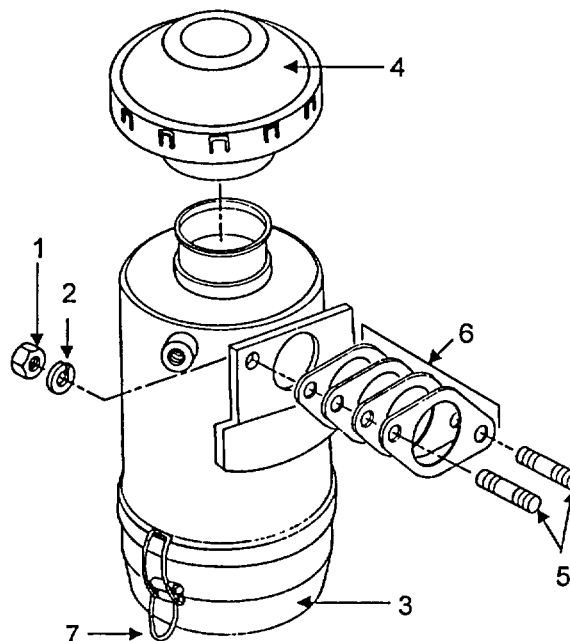

FIGURE 3-14. ENGINE OIL BATH AIR CLEANER FILTER
b Unlatch two spring clips (Figure 3-14, Item 7).
a Remove two 8 mm hex nuts (Figure 3-14, Item 1) and washers (2) from studs (5).